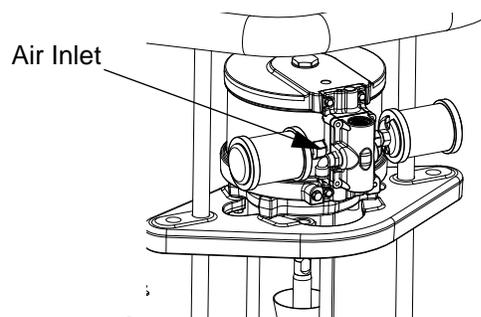

Fig. 101: Connect to Air Inlet
8. Connect the air line from the air source to the system air inlet. See FIG. 101. Refer to your specific pump manual to determine the correct air supply flow requirements. Connect an air supply hose that is capable of meeting the required flow to the air motor air inlet.